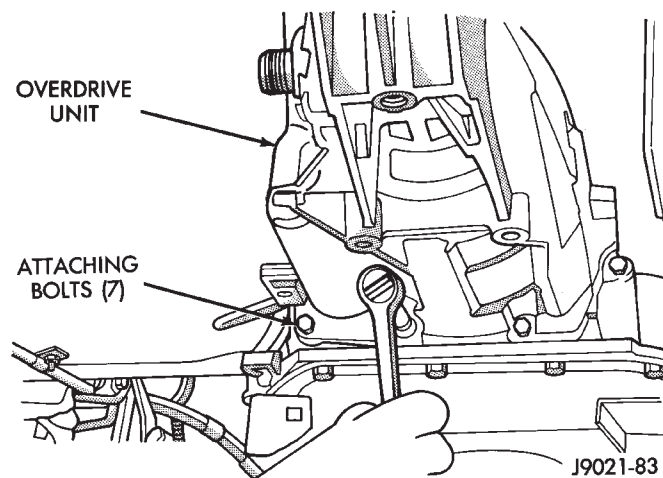

Fig. 31 Overdrive Unit Bolts
- (1) Shift transmission into Park.
- (2) Raise vehicle.
- (3) Mark propeller shaft universal joint(s) and axle pinion yoke for alignment reference at installation.
- (4) Disconnect and remove propeller shaft(s).
- (5) Remove transmission oil pan, remove gasket, drain oil and reinstall pan.
- (6) If overdrive unit had malfunctioned, or if fluid is contaminated, remove entire transmission. If diagnosis indicated overdrive problems only, remove just the overdrive unit.
- (7) Support transmission with transmission jack.
- (8) Remove bolts attaching overdrive unit to transmission (Fig. 31).